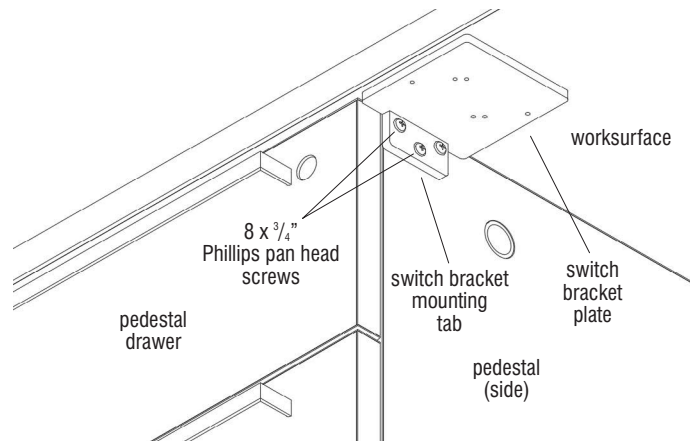

Figure 3
1. Position the switch bracket plate under the front, user side of the worksurface, with the switch bracket mounting tab against the pedestal and straight, making sure the switch bracket is no higher than the top of the pedestal, and positioned to be flush with the front edge of the pedestal drawer face (Figure 3).
2. Using the correctly positioned switch bracket as a template, mark the three mounting tab hole locations to the side of the pedestal, then move the switch bracket away. Using a cordless power drill and a $\frac{1}{32}$ " drill bit, carefully bore three holes at the center of the marked locations on the pedestal side (Figure 3).
3. Align the mounting holes of the switch bracket mounting tab with the pre-drilled holes on the side of the pedestal and secure using three #8 x $\frac{3}{4}$ " Phillips pan head screws. Take care not to over tighten (Figure 3).